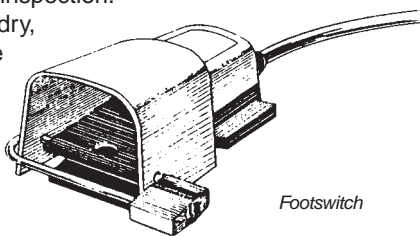

Figure 21.64
- Keep footswitch in working order. When not in use, lock the switch to avoid accidental start-up (Figure 21.64).